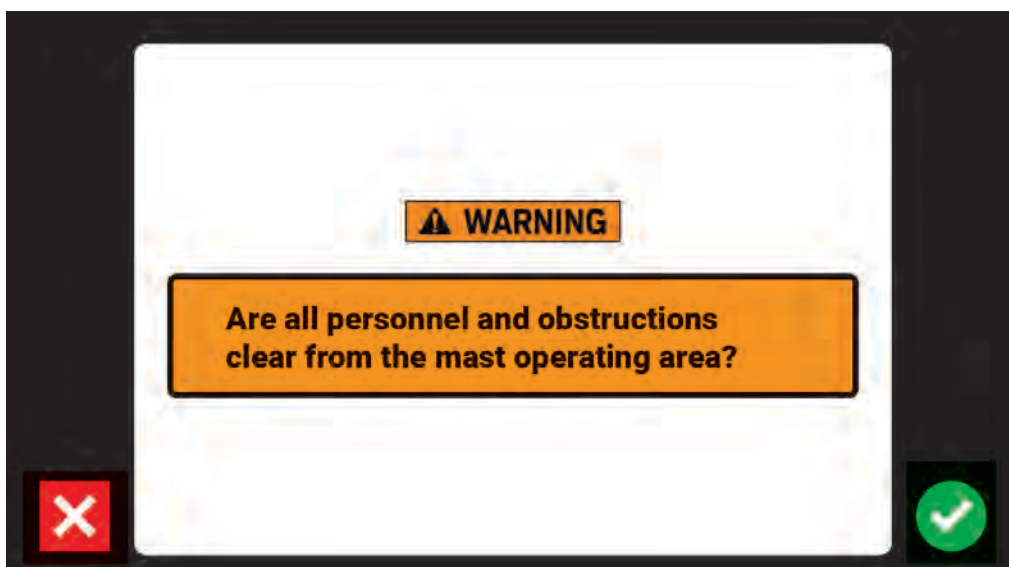

Figure 6-9 Automated Motion Warning Screen
If the extension method is automated (Auto Up® feature, “Deploy To” feature, and Presets feature), an Automated Motion Warning Screen will appear asking the user to check for obstructions before operating the mast (Figure 6-9). After ensuring the operation area is clear, press the green check mark button.
2. An Automated Motion Warning Screen will appear asking the user to check for obstructions before operating the mast (Figure 6-9). After ensuring the operation area is clear, press the green check mark button. The mast will now fully extend.
3. An Automated Motion Warning Screen will appear asking the user to check for obstructions before operating the mast (Figure 6-9). After ensuring the operation area is clear, press the green check mark button. If the mast is lower than the “Deploy To” height, the mast will now extend to the entered height.
3. An Automated Motion Warning Screen will appear asking the user to check for obstructions before operating the mast (Figure 6-9). After ensuring the operation area is clear, press the green check mark button. If the mast is lower than the Preset height, the mast will now extend to the chosen preset height.